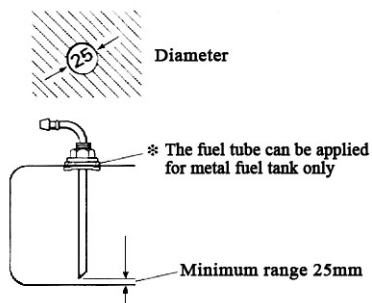

Fig. 18
4.4.6.1 When fuel is sucked from the vehicle fuel tank or from an independent fuel tank, a sucking pipe shall be used. Attention shall be paid to that the openings on the fuel tank (or tank cover) for installation shall be appropriate in size, with trimmed brim and with good evenness around the opening. Good sealing is necessary for the base of the fuel sucking pipe. The bottom end of the fuel sucking pipe shall be 30mm-40mm from the bottom of fuel tank to suck enough fuel and at the same time to avoid sucking in impurities sediment on the bottom of fuel tank. (Fig. 18)